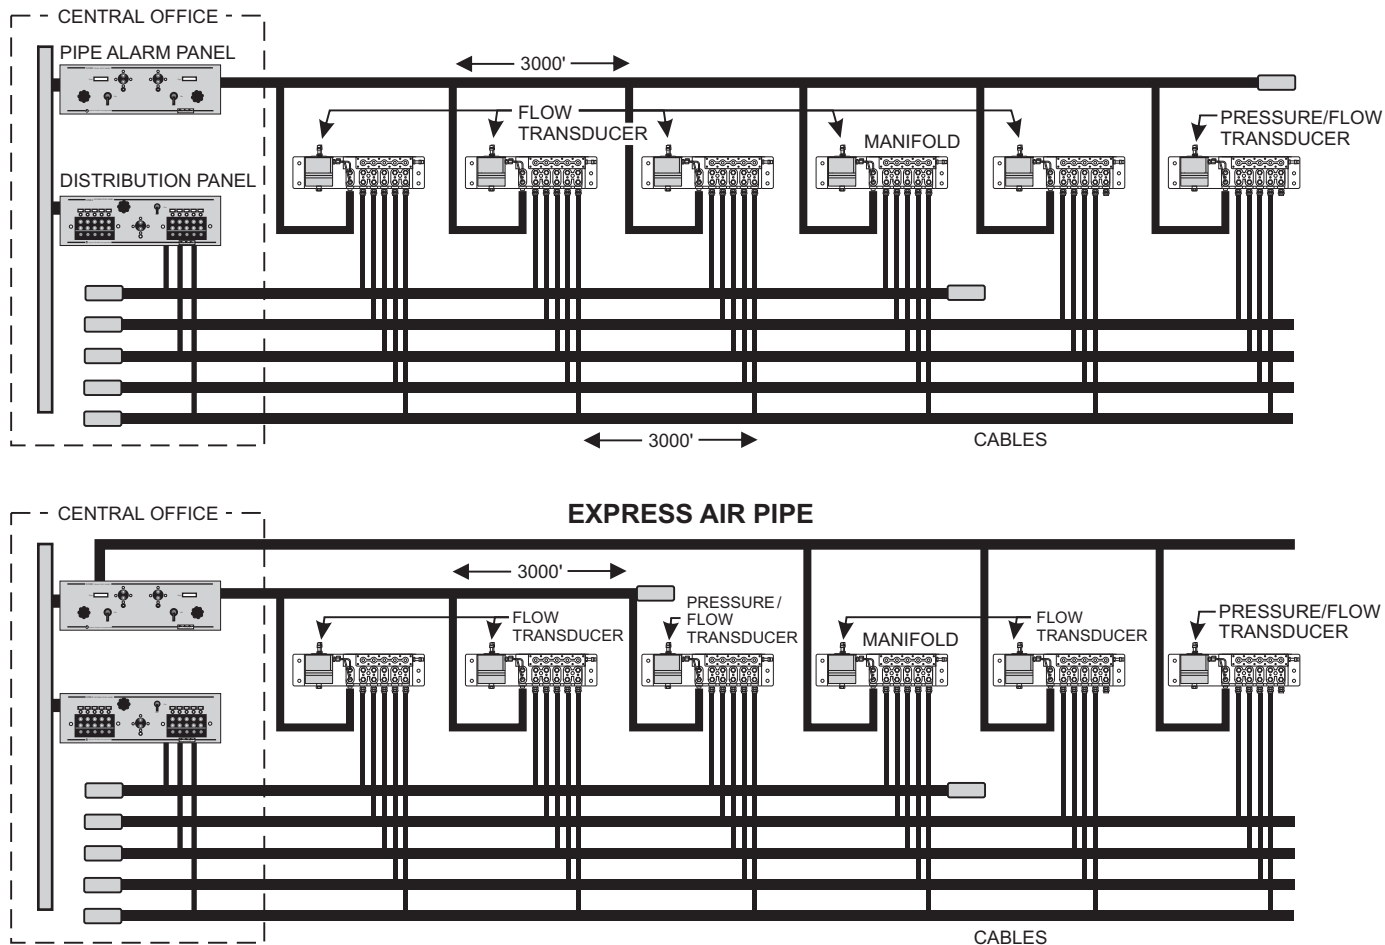

Fig. 2—Air Pipe Placement
- In some situations an additional air pipe and pipe panel may need to be installed on a route. If an air pipe feeds more than 20 tubes, and the pressure at the end of the pipe is below the standard of 7.5 psi, another pipe is probably required. If this is the case, the existing pipe should be used to feed the first manifolds on the route, and the new pipe should be installed as an express pipe feeding the remaining manifolds on the route (Figure 2).